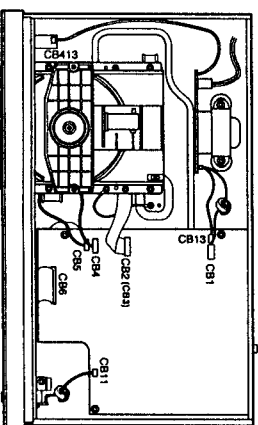

Fig. 2
- a. Press the OPEN/CLOSE key and open the tray. Then remove the Lid attached to the front edge of the tray in Fig. 2.
- c. Remove 3 connectors (CB6, CB11, CBA13) in Fig. 2.
- a. Remove 3 connectors (CB2, CB4, CB5) in Fig. 2.